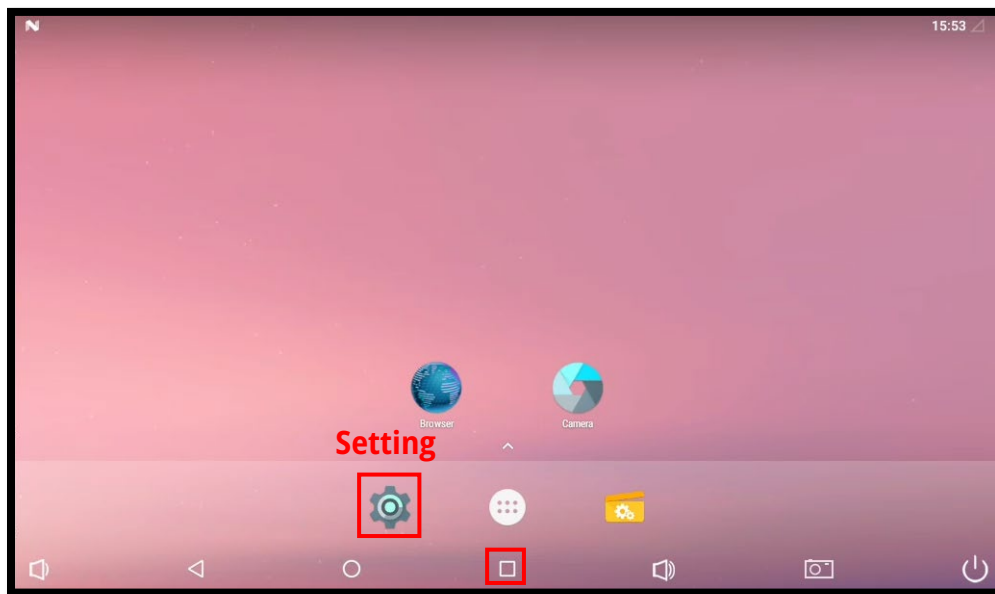

Figure 3.7 Accessing Device Setting Menu after Enabling Android Virtual Keys
- 1) Ensure that a 4G SIM card is installed on your charger (see Section 4.4 of installation manual for more information) and Android Virtual Keys option is enabled (see Section 3.3). Click on **the square in the bottom center** of LCD screen display to access the device's home screen, then click on the **setting** icon (Figure 3.7).